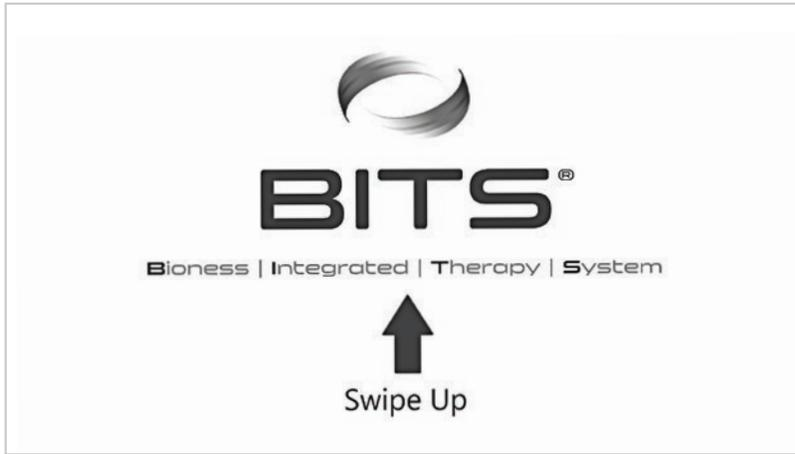

Figure 29: Windows Lock Screen
3. After Windows has loaded and the Lock Screen appears, follow the instructions on the screen and Swipe Up as directed. See Figure 29.